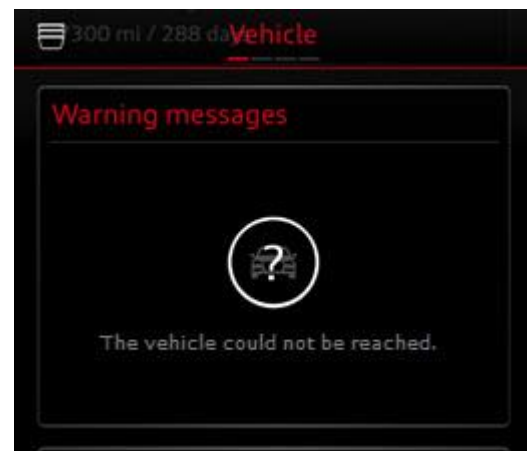

Figure 1. Warning messages cannot be refreshed.
- The function "Warning messages" does not provide new data when the user manually attempts to refresh the data. An error message stating "The vehicle cannot be reached" can be seen in the app and the myAudi web site (Figure 1).